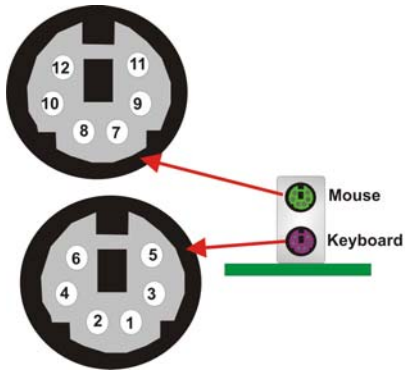

Figure 4-24: PS/2 Pinouts
- CN Pinouts:** See Figure 4-24 and Table 4-25